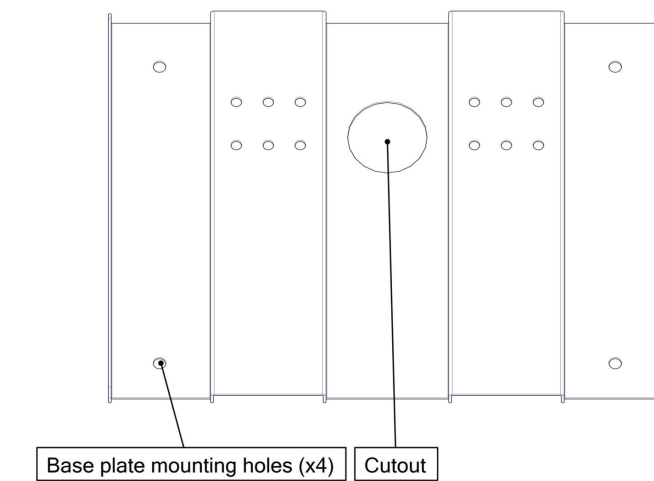

Figure 4: Base plate mounting holes
2. Using the base plate as a template, trace an opening on the floor for the cutout and mark the 4 base plate mounting hole locations as shown in Figure 4.
5. Secure the base plate to the floor using 4 bolts through the base plate mounting holes shown in Figure 4. The holes are 0.406" in diameter.